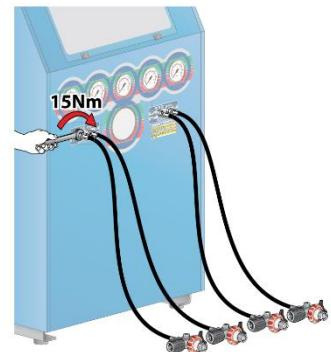

Figure 31. Tank refill hose change.
- Screw the hoses onto the connectors (a, Figure 31).